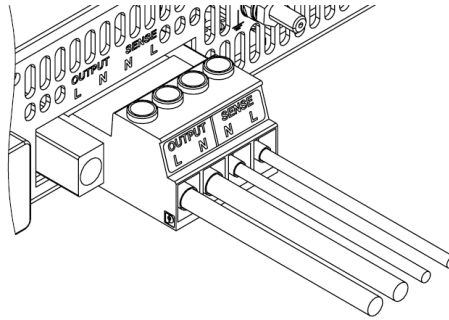

Figure 7-9: Tightening the Connector to the Power Source
6. Tighten the connector to the power source rear panel as shown in **Figure 7-9** using a tightening torque of 5–6 lbf-inch (0.3–0.7Nm).